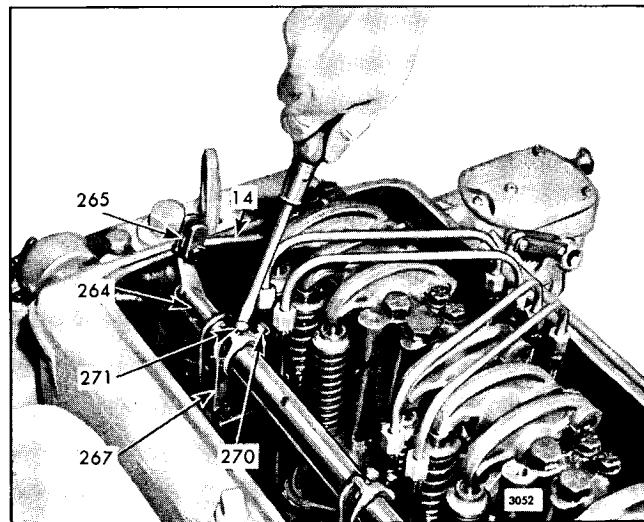

Fig. 2 - Positioning No. 6 Injector Rack Control Lever
1. Remove governor cover. Refer to Fig. 2 and loosen all inner adjusting screws (270) and outer adjusting screws (271). Be sure all injector rack control levers (267) are free on the injector control tube.
1. Turn outer adjusting screw (271), Fig. 2, in until a slight movement of the injector control tube lever (265) is observed. Tighten inner adjusting screw (270).